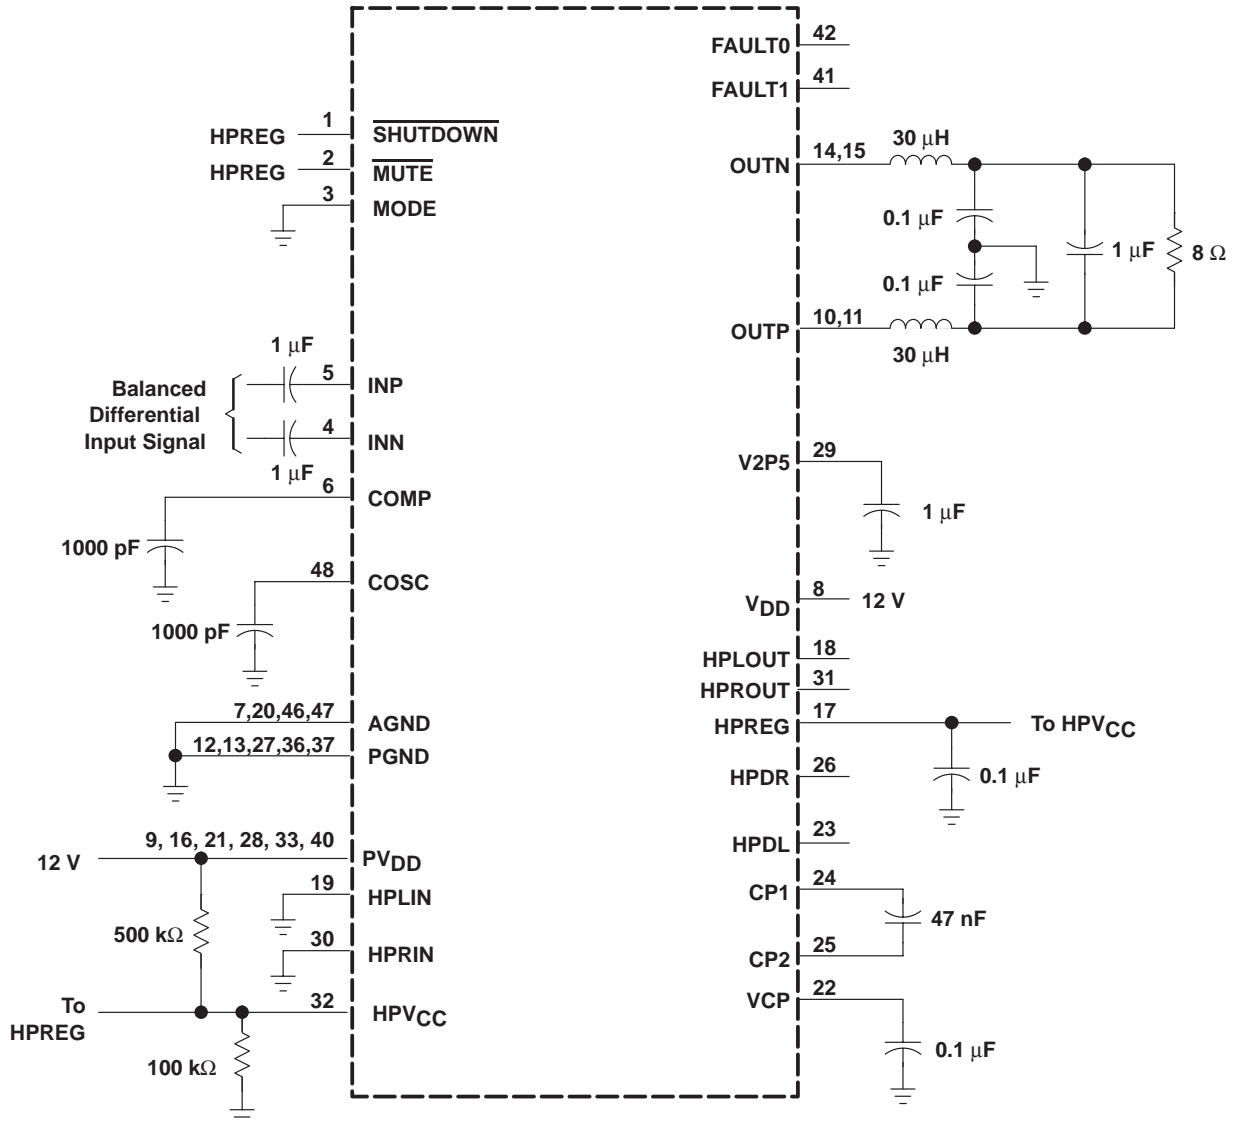

Figure 2. 12-V, 8-Ω Test Circuit
**operating characteristics, Class-D amplifier,  $V_{DD} = PV_{DD} = 12\text{ V}$ ,  $R_L = 8\ \Omega$ ,  $T_A = 25^\circ\text{C}$ , See Figure 2 (unless otherwise noted)**